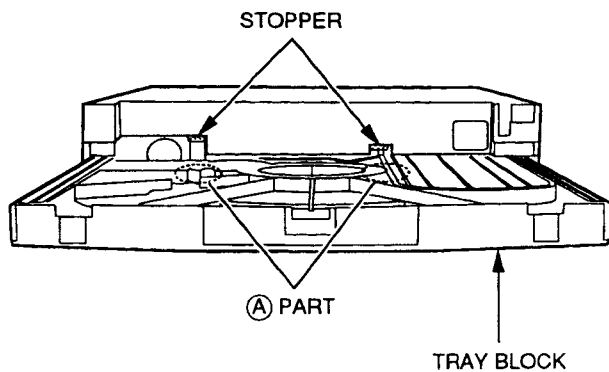

Fig. 3-10
- 3) In order to disengage the two stoppers, carefully press the Ⓐ part of the TRAY BLOCK downwards while pulling the TRAY BLOCK out as shown in Fig. 3-10.